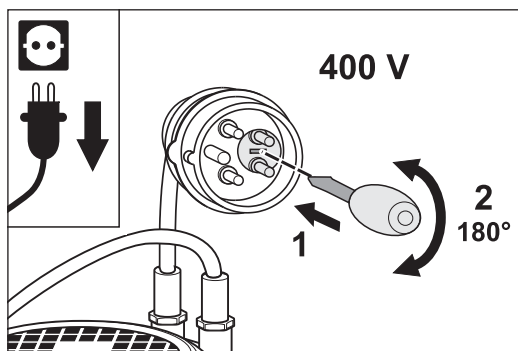

Fig. 21 Change the rotation direction of the motor by turning the phase changing switch at 180°.
- Put a screwdriver in the slit of the phase changing switch in the plug of the motor cable (fig. 21, 1).
- To unlock the phase changing switch press the screwdriver in the slit and **at the same time** turn the screwdriver at 180° (fig. 21, 2).
- To unlock the phase changing switch turn the screwdriver at 180° against a small resistance (fig. 21, 2).